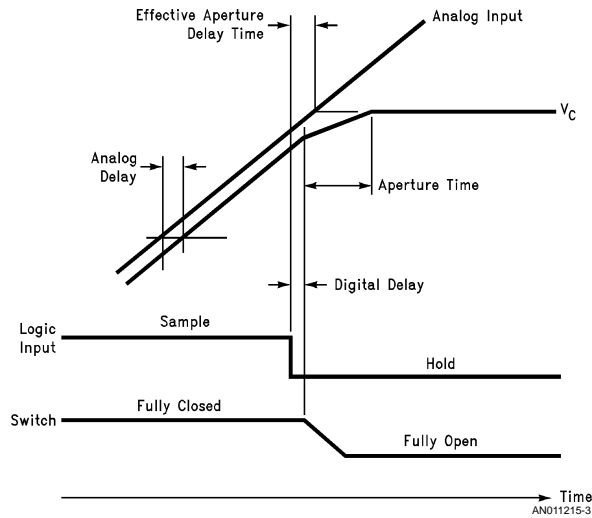

FIGURE 3. Aperture Time and Effective Aperture Delay Time
**Aperture Time**, also known as aperture delay, is a specification that is defined differently by different manufacturers. The strict definition is that it is the time during which the signal is being disconnected from the hold capacitor after a hold command has been given (Figure 3). The broader definition is that it is the time between the application of the hold command and when the signal has been completely disconnected from the hold capacitor. The second definition includes the digital delay which occurs between when the hold command is applied and when the switch connecting the input signal to the hold capacitor *begins* to open.
**Effective Aperture Delay Time** is the time delay between the generation of the hold command and the appearance at the input of the final "held" voltage that exists on the hold capacitor (Figure 3). If precise timing is required, the hold command must be given an "effective aperture delay time" before the instant at which the input value is desired.